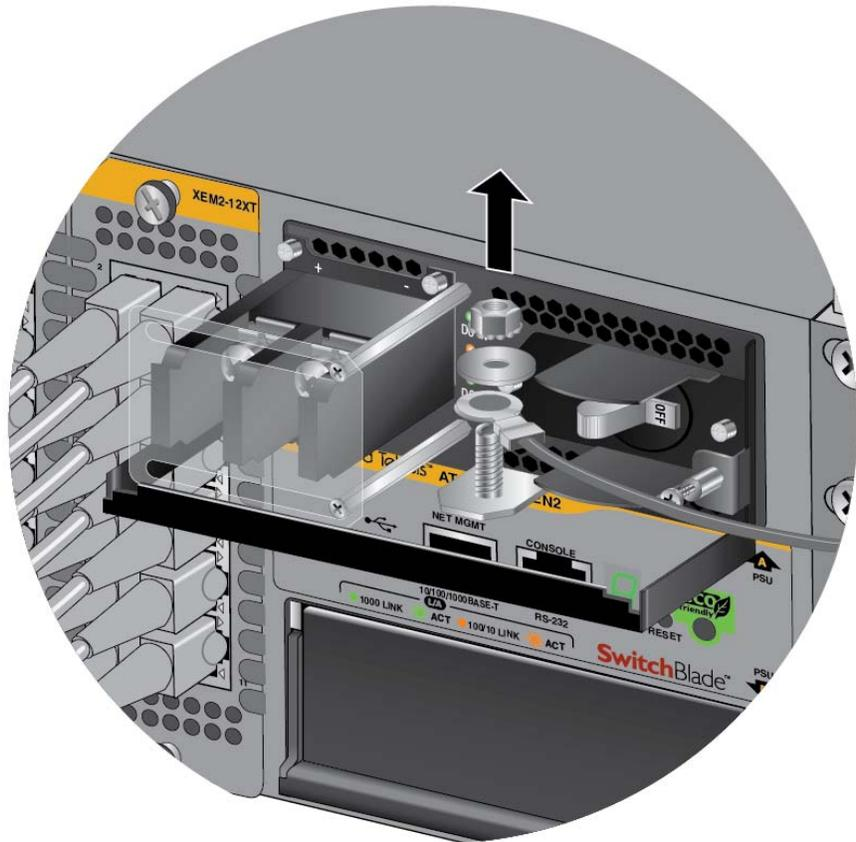

Figure 118. Removing the Grounding Wire
9. Use an 8 mm wrench to remove the grounding wire from the grounding post. Refer to Figure 118 on page 197.